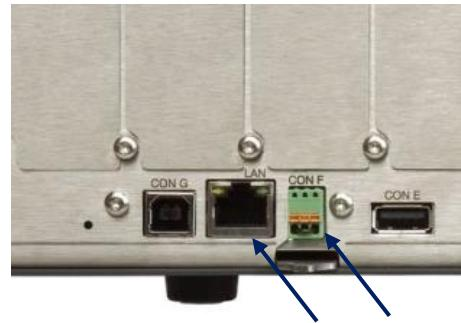

Figure 7.6: The location of the LAN-connector (left) and the Interlock connector (right) at the rear panel
- This connector is located at the rear side, marked as LAN see Figure 7.6.
- This connector is located at the rear side, marked as CON F, see Figure 7.6.
- The type-A (Host) connectors are located at the front panel near the display, and one at the rear panel (CON E), see Figure 7.6 and Figure 7.7.
- The type-B (Device) is located at the rear panel (CON G), see Figure 7.6.